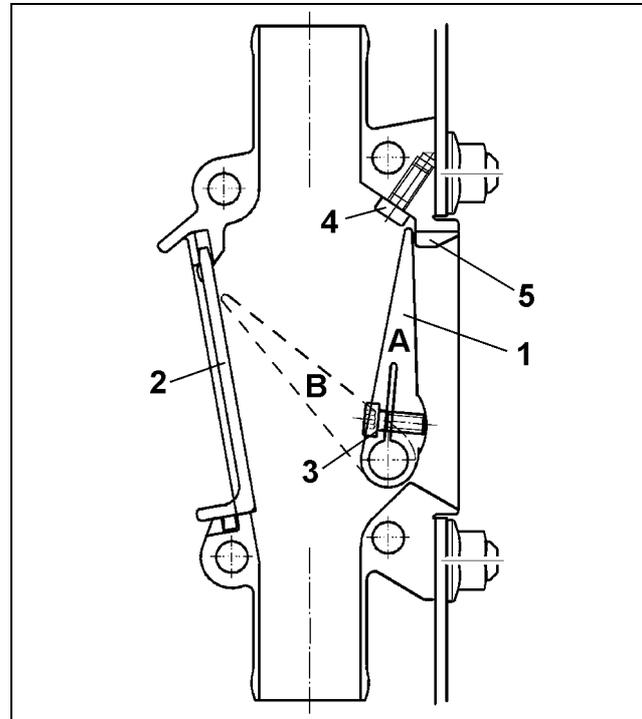

Fig. 55
- **Activate flap (Fig. 55/B, for tramline coulters)**
Every individual flap (Fig. 55/1) can be activated inside the flap box. In order to reach the flap, remove the relevant fitting window (Fig. 55/2). For this, push the fitting window upwards and remove it to the front.
Affix the flap to be activated (Fig. 55/1) with the inner hex. bolt (Fig. 55/3) on the shaft. When tightening the bolt, AMADOS/AMALOG or the switch box must not be in position "0" and the flap must be pressed – e. g. with your finger as shown in Fig. 55, against the stop (Fig. 55/5). Do not tighten the bolt too firmly so that the flap will not be strained.
Drive in the fixing bolt (Fig. 55/4) free of strain so that the flap may easily pass the bolt head.
- **Deactivate flap (Fig. 55/A, for a normal sowing coulters)**
Every individual flap may be deactivated (Fig. 55/1). In order to reach the flap, remove the relevant fitting window (Fig. 55/2). For this, push the fitting window upwards and remove it to the front.
AMADOS/AMALOG or the flap box may not be in switching position "0". Press the flap, e. g. with your finger, as illustrated in Fig. 55/A against the stop (Fig. 55/5) and slacken the inner hex. bolt (Fig. 55/3) with which the flap to be deactivated is fixed onto the shaft until the flap can be moved freely on the shaft.
Turn out fixing bolt (Fig. 55/4) for approx. 5mm so that the deactivated flap cannot open and the opening towards the seed box remains shut.